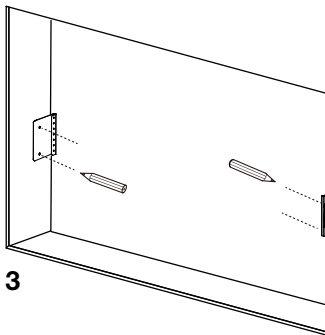

FIG. 3
- E. Mark the holes for the mounting bracket (FIG. 3).